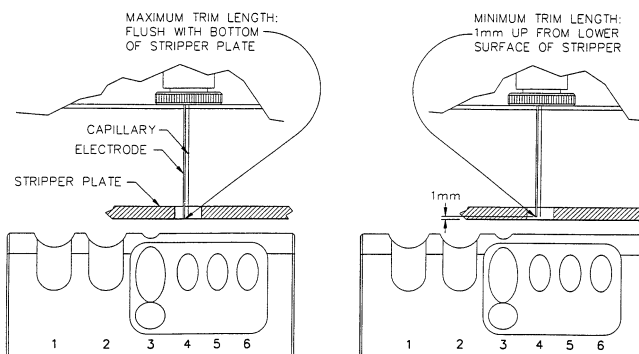

Figure 3-2 Trimming the electrode
IMPORTANT! A new electrode must be trimmed to the correct length. Refer to Figure 3-2 for information on trimming the electrode.
- Be careful not to flex the stripper plate upwards while cutting. Do not cut off more than 1mm beyond the lower surface of the stripper plate (Figure 3-2).